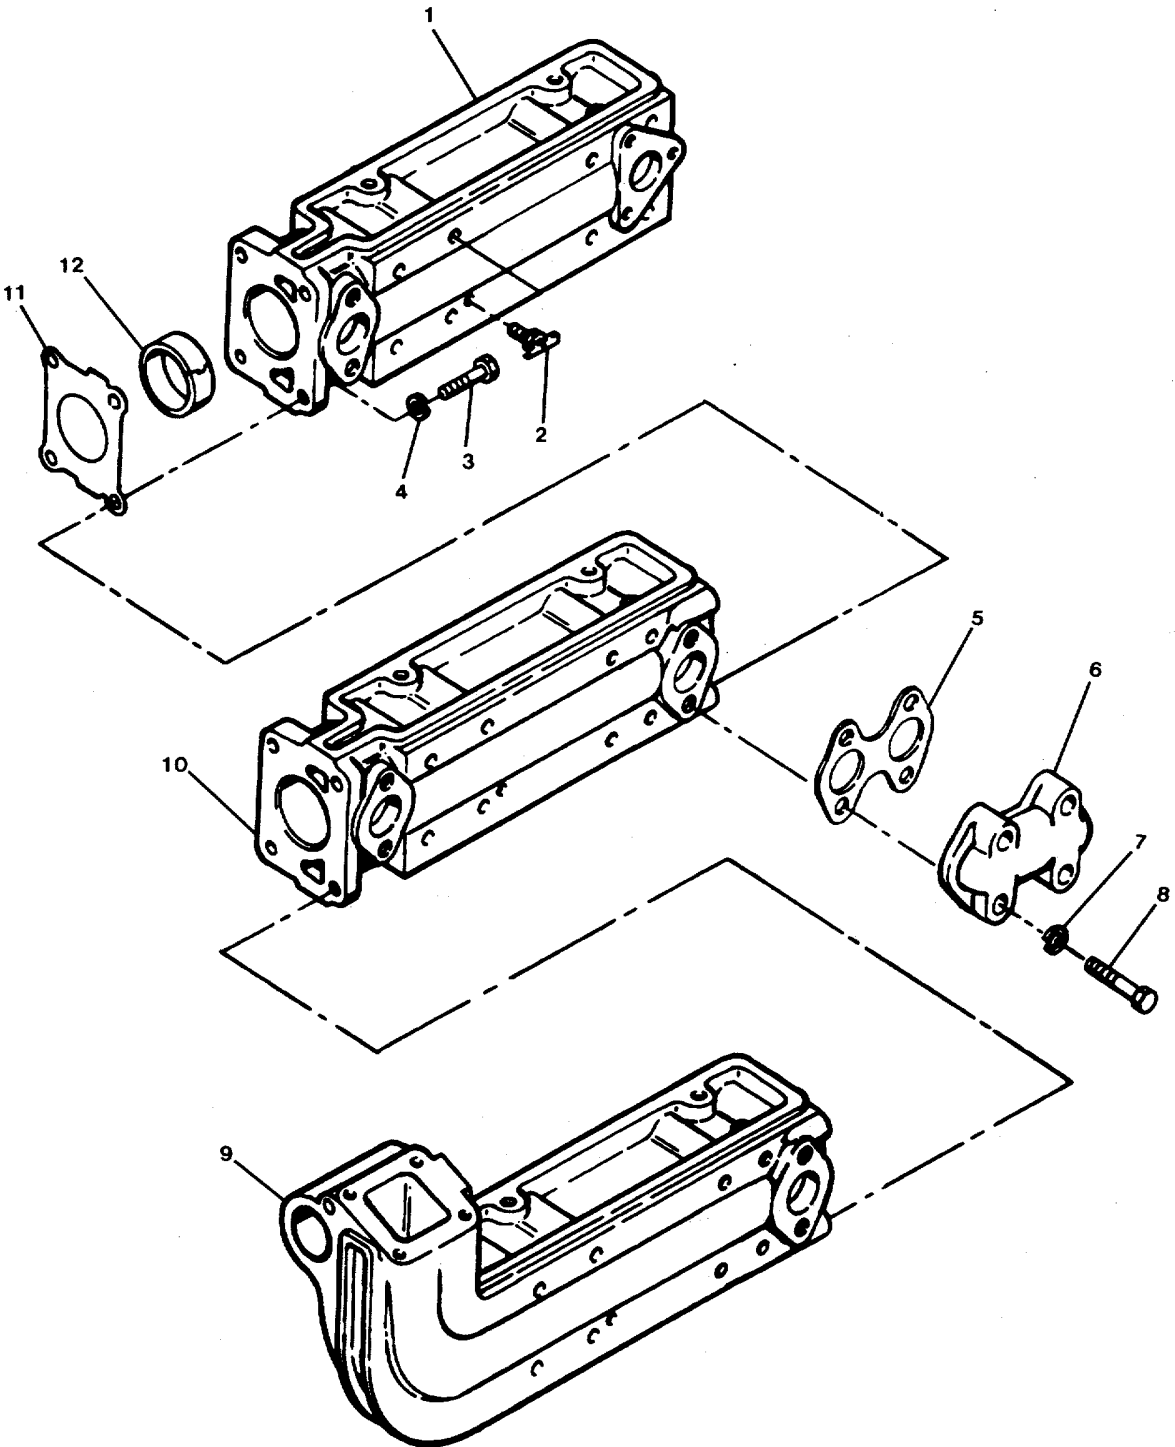

FIGURE 3-10. *Exhaust Manifold Group.*
- a. Lubricate preformed packings (8) with clean engine lube oil.
- b. Install preformed packings (8) in grooves of element pipes.
- d. Push lube oil cooler element (9) into engine block bore until all preformed packings (8) are in bore completely.
- e. Position preformed packings (10) on each threaded pipe of element (9).
- g. Position access cover (6) on gasket (7) with bolt holes aligned and threaded pipes of element (9) protruding through openings in cover (6).
- h. Install self-locking nuts (5), capscrews (4) and lockwashers (3). Tighten capscrews (4) to 30 ft-lb (40 N m). Tighten self-locking nuts (5) to 45 ft-lb (60 N m).
- i. Position access cover (2) on gasket (11) with bolt holes aligned.
- j. Install hexagon head capscrews (1) and lockwashers (12). Tighten capscrews to 30 ft-lb (40 N m).
3.18. Repair Exhaust Manifold Group. (FIG. 3-10)